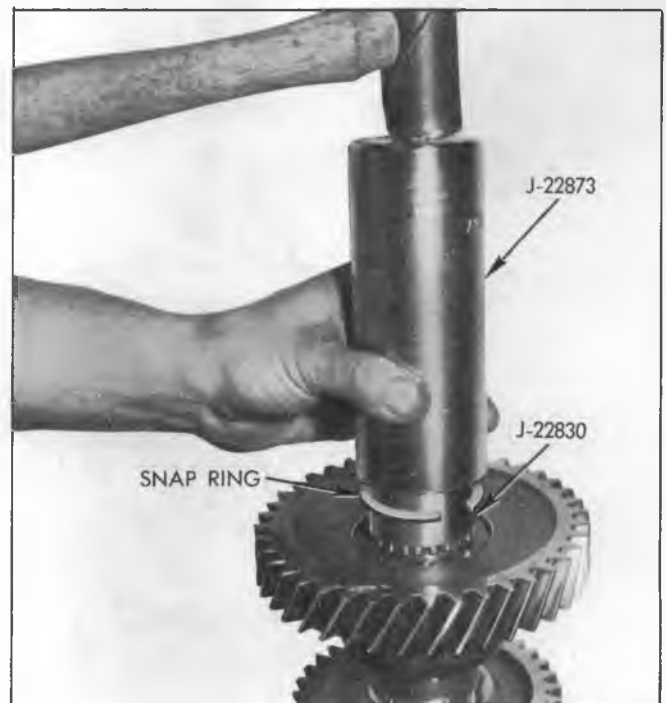

Fig. 21Q--Installing Counter Gear Snap Ring
3. Install new clutch countergear rear retaining ring using Tool J- 22830, J-22873 and snap ring pliers as follows: Install Tool J-22830 on end of shaft and position snap ring on Tool (fig. 21Q). Using Tool J-22873, push down on snap ring until it engages groove on shaft. Using snap ring pliers, carefully expand ring until it just slides onto splines, then push ring down shaft until it engages groove on shaft.
5. Install clutch countergear thrust washer and front retaining ring using Tool J-22830 and J-22873 (fig. 21Q).